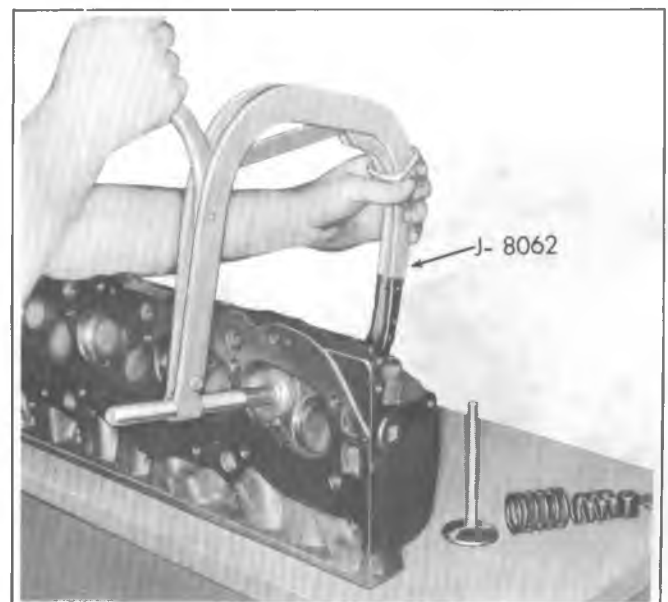

Fig. 6A5-18--Compressing Valve Spring
2. Using Tool J-8062, compress the valve springs (fig. 6A5-18) and remove valve keys. Release the compressor tool and remove rotators or spring caps, springs and spring damper, then remove oil seals and valve spring shims.
- Clean all carbon from combustion chambers and valve ports using Tool J-8089 (fig. 6A5-19).